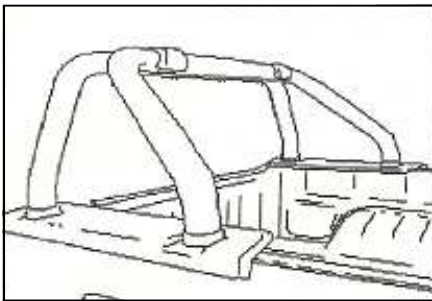

Fig. 5K
**5K.** Using 2 People, position Sportsbar assembly as shown in **Fig. 5K**